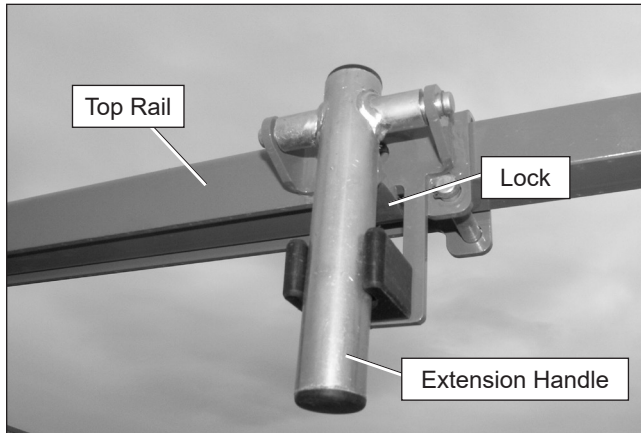

Figure 8.18 – Platform Extension Handle
1. Inspect the extension handles and locks (refer to Figure 8.18) on each side of the platform to ensure they release to extend the platform.
2. While facing the front of the platform, grasp the platform extension handles, raise them and push the extension deck forward to extend the deck. Fully lower the handles at the mid or front position and ensure they are locked in their lowered position (refer to Figure 8.18).
6. While facing the front of the platform, grasp the platform extension handles, raise them and pull the extension deck backward to retract the deck. Fully lower the handles at the stowed position and ensure they are locked in the lowered position (refer to Figure 8.18).